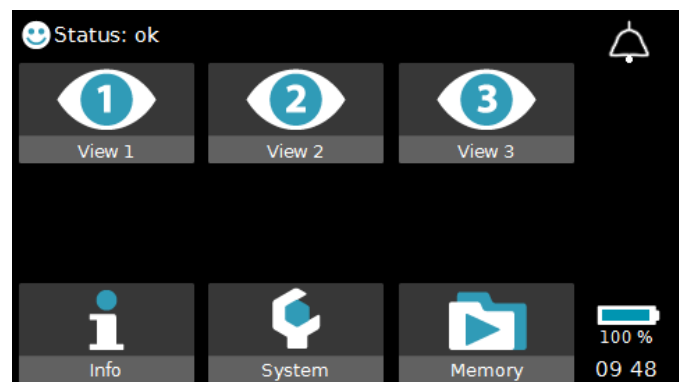

Fig. 77 Home Screen with Settings Protection On and Views 2 & 3 Set to On
By setting the **Show PR/HR** setting to **On**, the pulse rate (PR) is displayed simultaneously to the heart rate (HR) in both **View 1** and **View 2**. In **View 1**, the current value of **PR** is displayed on the left-hand side of the screen below the signal quality indicator in the **Heart Rate/Pulse Rate** workspace, as shown in Fig. 77.